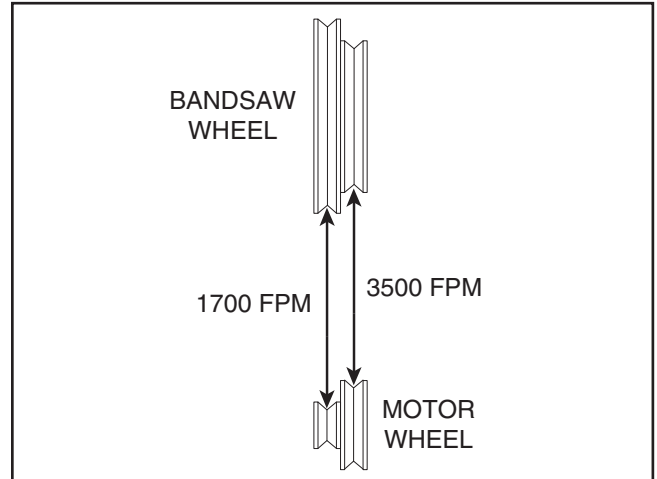

Figure 77. V-belt speeds.
3. Refer to **Figure 77** to locate the correct V-belt position for the desired blade speed and move the V-belt to the indicated pulleys.